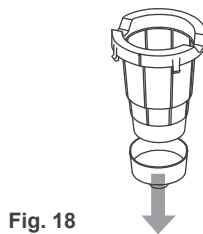

Fig. 18
1. There are two bottom Needles inside the Red Cup Holder. Pull down the bottom funnel from the top Holder. (Fig. 18)